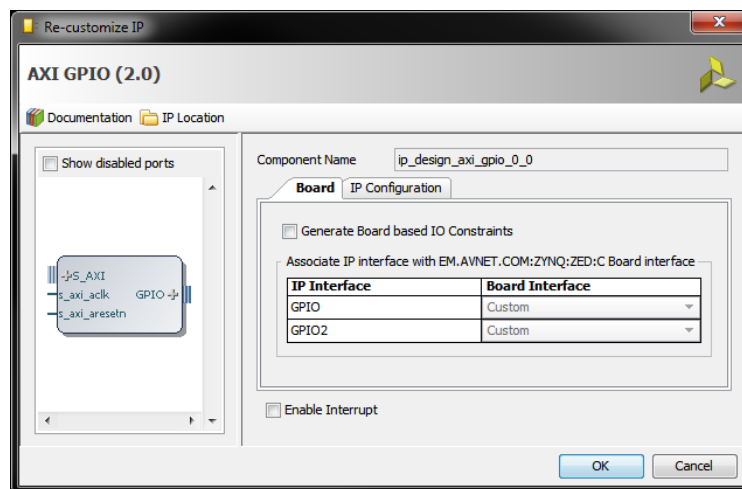

Figure 5.12: Re-customize IP window (GPIO)
- (l) Open the *Re-customize IP* window by double-clicking on the **axi_gpio_0** block. The window, as shown in Figure 5.12, will open.